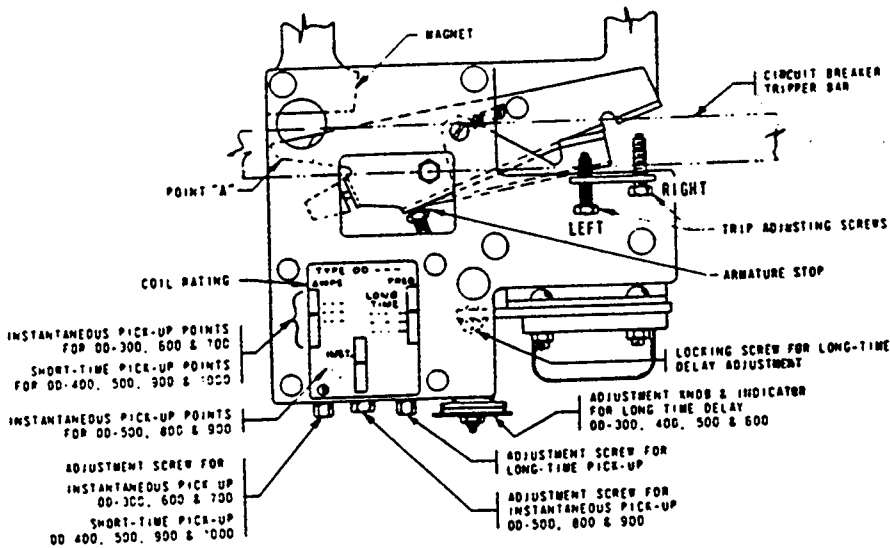

Fig. 10 — Overload Device Adjustments
**Long Time Delay Band Adjustment (Figure 10)
Pick-Up Setting Adjustments (Figure 10)
- a. (See Figure 10.) Back out on the two trip adjusting screws until the screws are engaging the nut by approximately two turns.